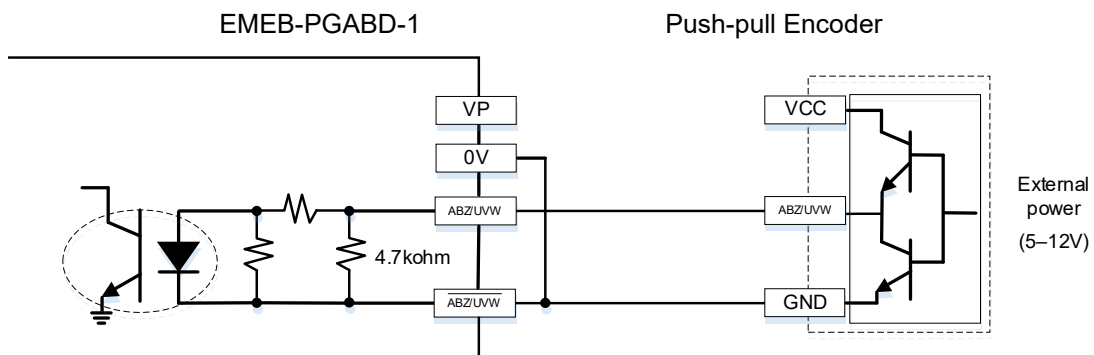

Figure 3-42
3. Push-pull output encoder application: Each set of input current is 5–15 mA. If input voltage uses 12V power, connect the encoder power externally. See the PG wiring Figure 3-42 below.